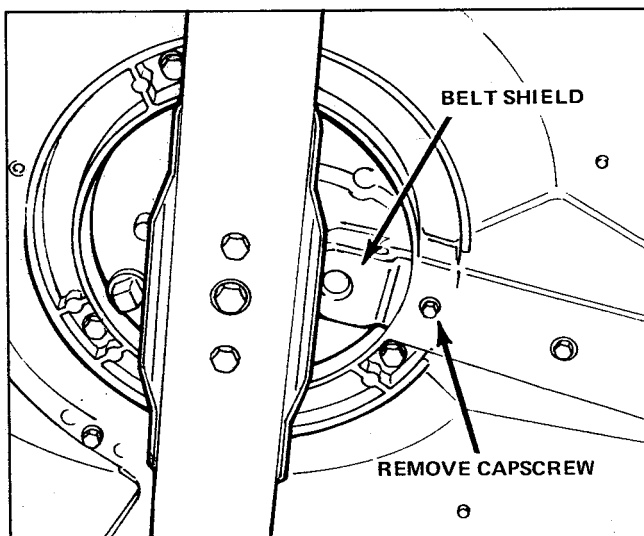

Figure 22. Removing Belt Shield
2. Disconnect the spark plug wire and fasten it away from the plug. Lift the mower up from its proper side. Remove the capscrew holding on the belt shield (figure 22).